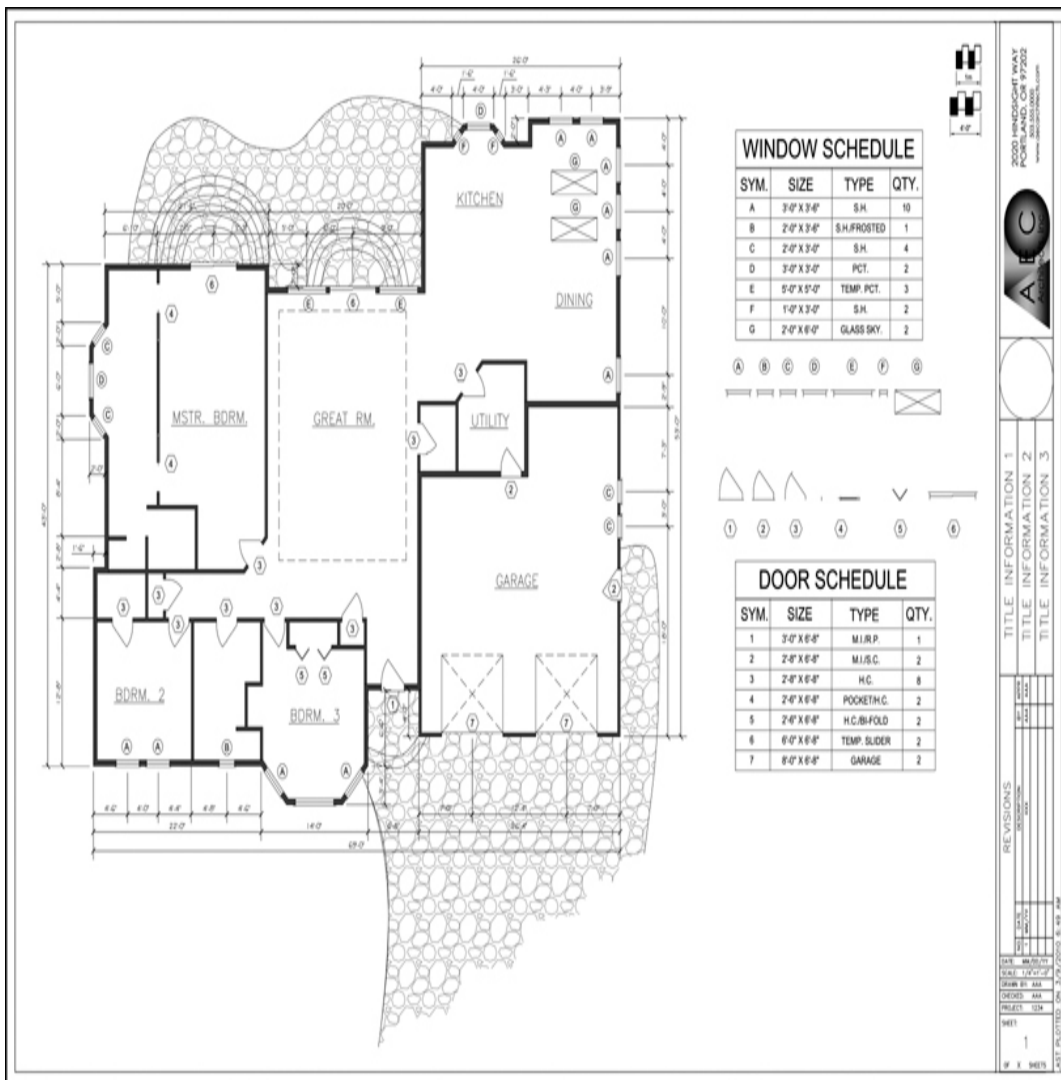

Figure 14-52
5. Set the viewport scale to **1/4" = 1'-0"** and center the view as shown in **Figure 14-52**.